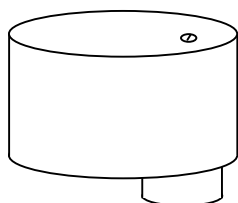

Figure 4 Vent valve
- a) Check that the dewar top fitting is already fitted to the storage dewar, and is secured using the three M6 screws provided. Make sure that the three small screws that hold the top fitting together are loose. (The sample flow leg and shield leg will not slide into the dewar top fitting if these screws are tightened.) Remove the vent valve by pulling firmly upwards. (See Figure 4.)
- l) Push the vent valve (Figure 4) firmly into position on the vent tube until it stops. This is a tight fit, as the vent valve is sealed by an o-ring onto the vent tube.